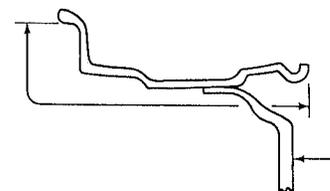

FIG. 3—SINGLE SEMI-DROP CENTER DISC WHEEL
3.2.3 **SINGLE SEMI-DROP CENTER OR FLAT BASE DISC WHEELS**—Label on the outboard surface of disc or the weather side of the rim as shown in Fig. 3.